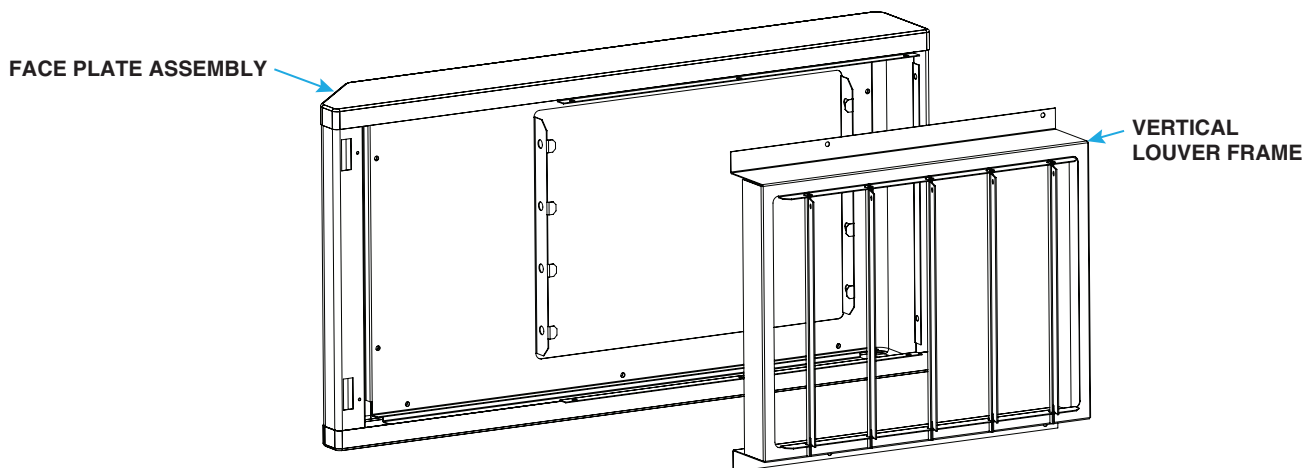
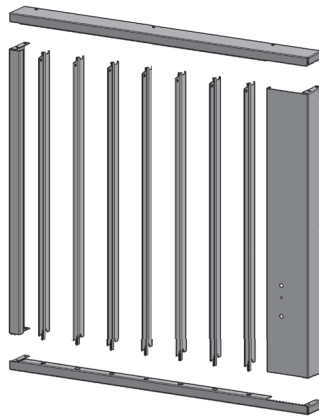

Figure 1. Typical Gas-Fired Unit Heater Face Plate Assembly (with Vertical Louver Frame Shown)
Figure 2. Typical Hydronic Unit Heater Vertical Louver Frame with Louvers
2. For gas-fired unit heater, remove face plate assembly (see **Figure 1**):
- a. For gas-fired unit heater (see **Figure 1**):
- (1) In face plate opening for louver frame, remove and save screws from face plate.
- (2) Position louver frame in face plate so that holes align and secure frame through face plate to face plate assembly using existing screws.
- (3) Install face plate assembly and secure to front of unit using existing screws.
- (4) Re-install existing two screws in back of face plate next to slots for access door.
- (5) Place access door tabs in slots, reconnect door strap, close door, and tighten screwlock.
- b. For hydronic unit heater (see **Figure 2**):
- (1) Assemble louver frame top, bottom, and side panels, align holes, and secure panels together using screws from kit.
- (2) Position frame against recessed black face plate on unit.
- (3) Align holes on inside of frame top, bottom, and sides and secure frame to unit using screws from kit.